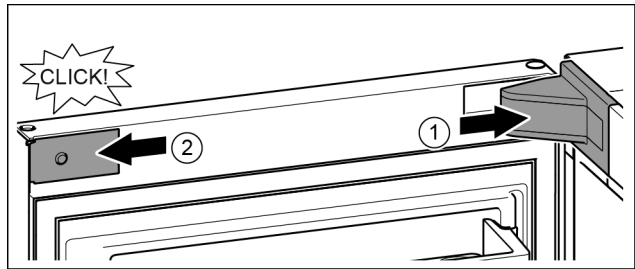

Fig. 41
- ▶ Position the bearing bracket and engage. If necessary push apart carefully. Fig. 41 (1)
- ▶ Position the panel on the side and click into place. Fig. 41 (2)